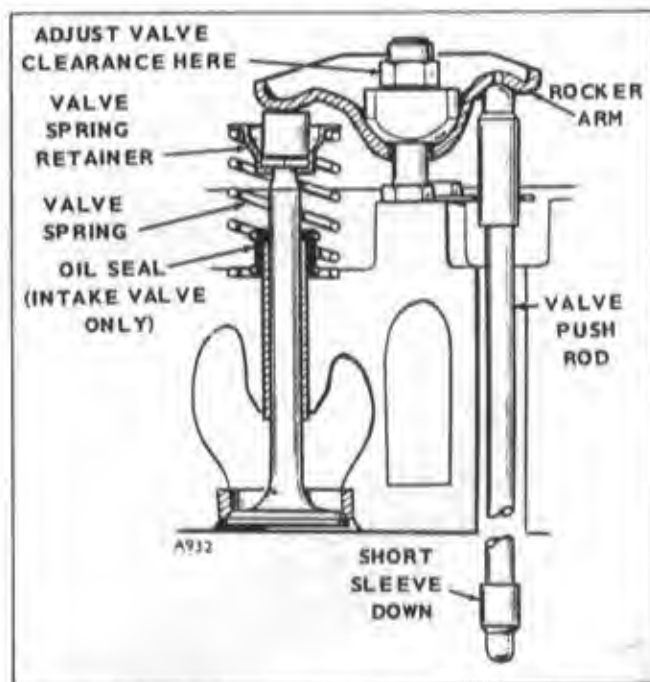

Figure 11. Setting Valve Clearance
3. To change the setting of valve clearance, adjust the locknut which secures the rocker arm to the cylinder head (see Fig. 11). Loosen the locknut to increase clearance and tighten it to reduce clearance.